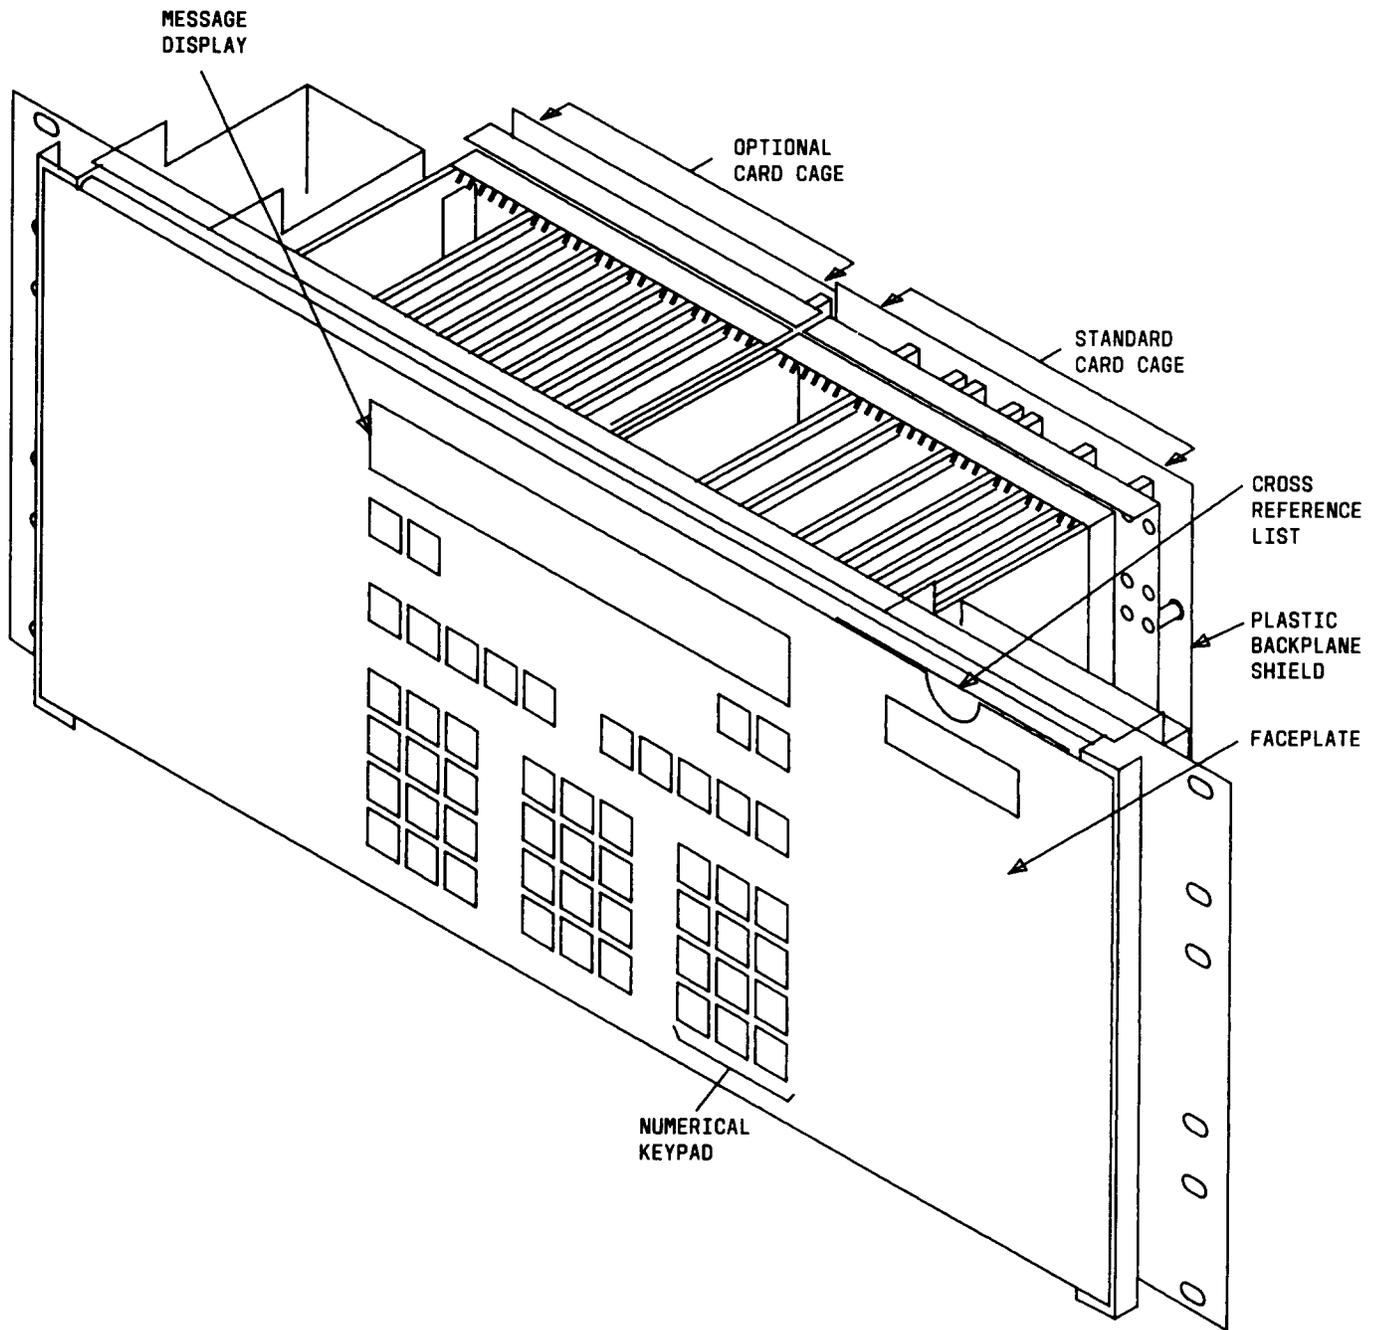
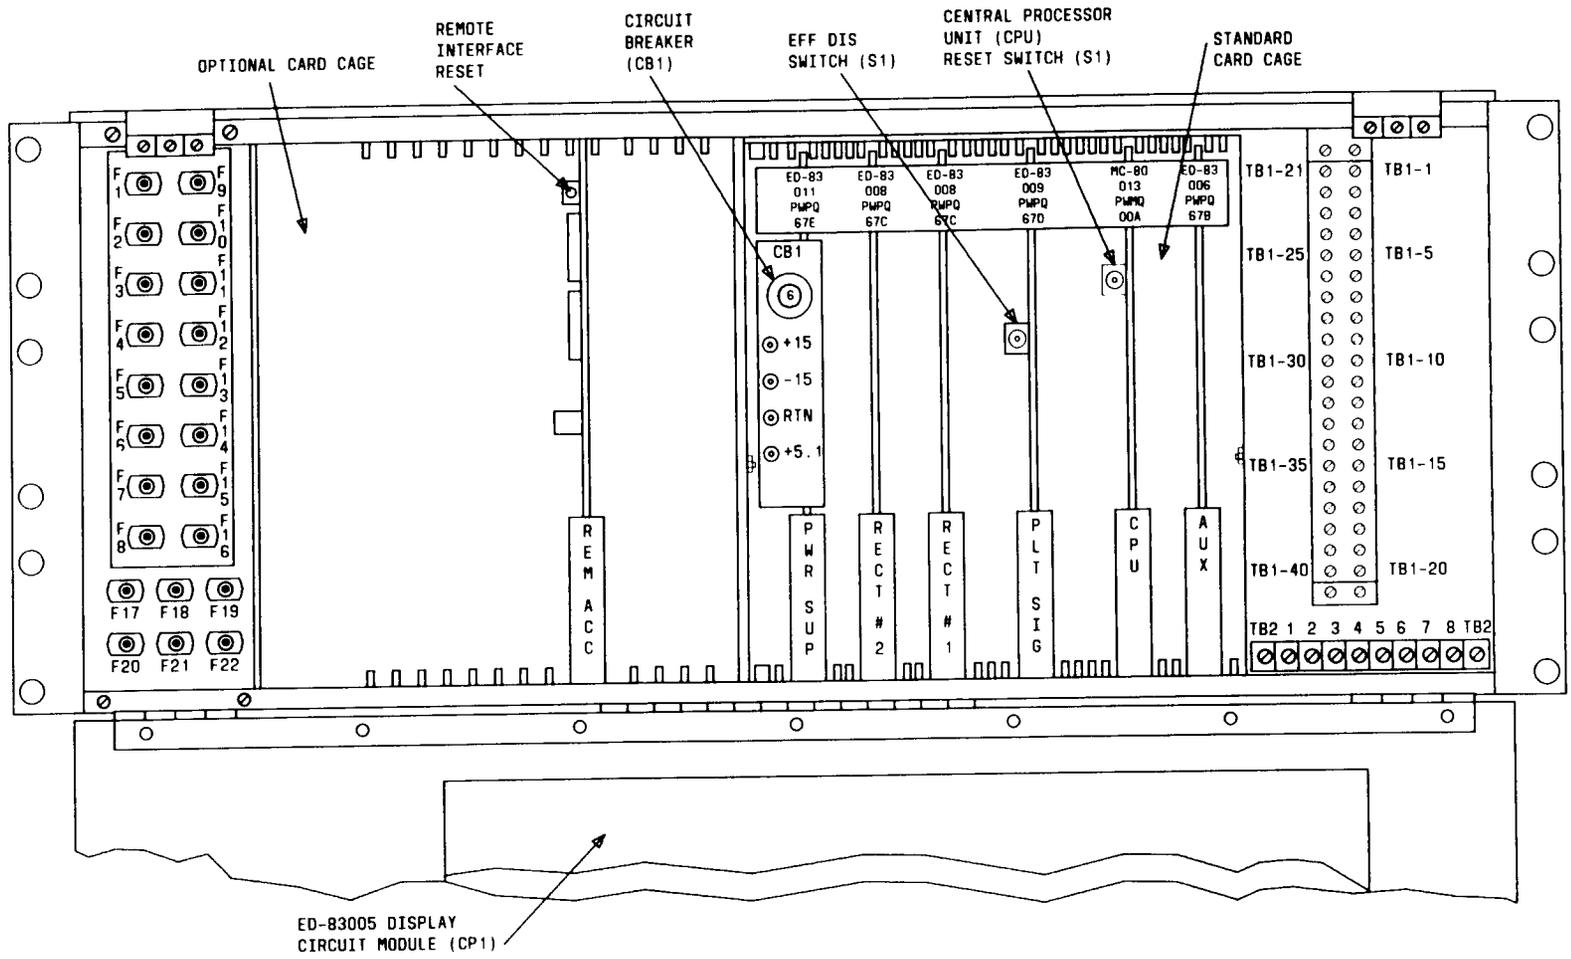

Fig. 1 — Smart Plant Controller
Fig. 2—Smart Plant Controller (Faceplate in Open Position)
**2.02** The smart plant controller (Fig. 1) measures 9 inches high, 26 inches wide, and 12 inches deep. The front panel contains a 40-character, single-line alphanumeric vacuum fluorescent display (VFD). Red membrane switch pads access major alarm information. Yellow membrane switch pads access minor alarm information. A blue membrane switch keypad (numeric keypad) is provided to enter rectifier, feeder number(s), perform alarm cutoff (ACO), and to set the 24-hour system clock. Gray membrane switch pads access various standard and optional plant features. Behind the panel faceplate (hinged to open downward) (Fig. 2), is the card cage(s) for the system circuit packs. Circuit packs for standard and optional features are plugged into the controller as needs dictate. When new options are added to the plant, keypad inserts are replaced in the faceplate, if necessary. Sixteen fuse positions are located to the extreme left side of the controller for rectifier REG fuses. Below the REG fuses are six fuse positions to provide controller power, alarm power, and battery voltage to all connected rectifiers.
the reason(s) for minor alarms [reason(s) for minor alarms appear on the message display]. The specific system function controls allow the operator to run tests on the plant and access plant operating data. The numeric keypad is used to set the system clock and to select the rectifier to be checked. Behind the panel faceplate (hinged to open downward) (Fig. 2) are 16 fuse positions (F1 through F16) for rectifier regulation (REG) fuses. Below the REG fuses are six fuse positions to provide the following: